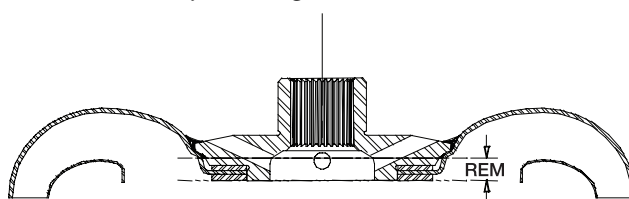

Figure 4
4. Machine .345" from the stator bearing face of the turbine assembly (see Figure 4).